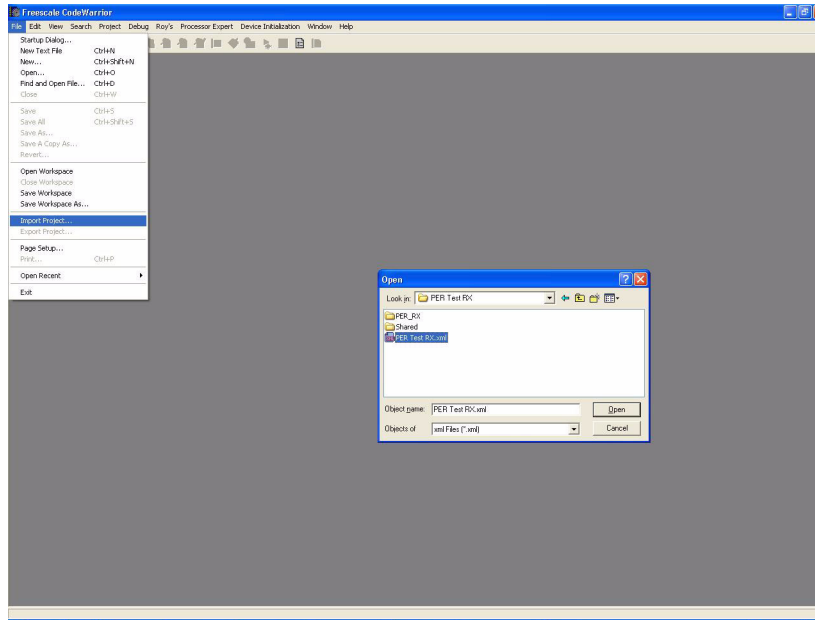

Figure 8. Importing a BeeKit .xml File
1. As shown in Figure 8, import the `PER_RX.xml` file, then save the project as `PER_RX.mcp`.